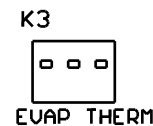

Fig. 2b
- 6) Check CB control connectors K3 (Evaporator Thermistor) and K5 (Float Switch) for correct VDC per table below. See Fig. 2b.